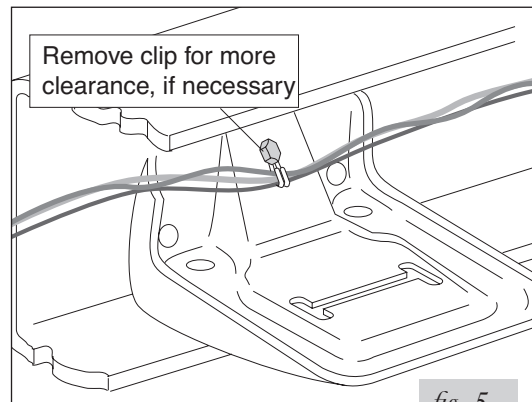

fig. 5
- It may be necessary to remove the clip holding the lines on the inside of the frame rail to provide access to the existing bolts (Figure 5).